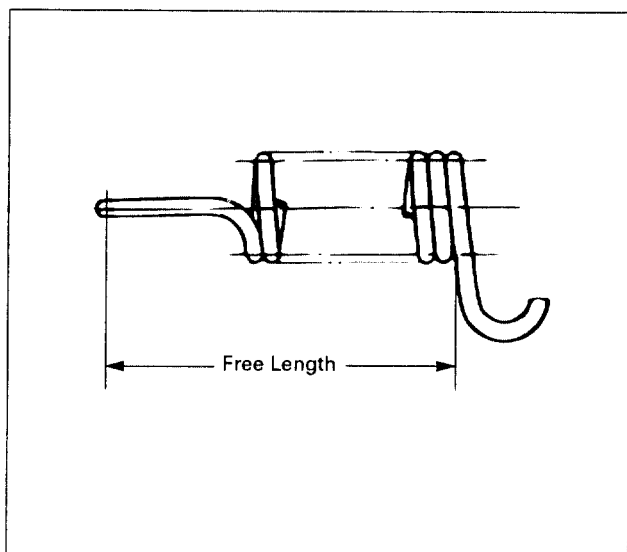

Figure 6 – Return Spring Free Length
- Return spring (11). Free length should be specified length (figure 6).
- Shoes (14). Replace the shoes if the web at the point of cam (13) contact is severely worn.